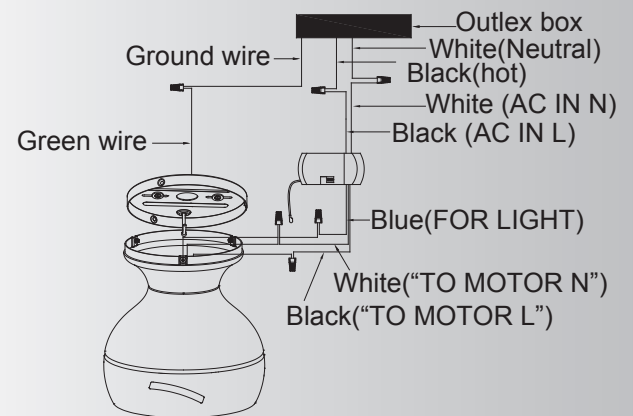

Fig. 9
Step 1. Motor to Receiver Electrical Connections: Connect the BLACK wire from the fan to BLACK wire marked "TO MOTOR L" from the receiver. Connect the WHITE wire from the fan to the WHITE wire marked "TO MOTOR N" from the receiver. Connect the BLUE wire from the fan to the BLUE wire marked "FOR LIGHT" from the receiver. Secure all the wire connections with the plastic wire nuts provided. (Fig. 9)
Step 2. Remote Receiver to Outlet Box Electrical Connections: Connect the BLACK (hot) wire from the ceiling to the BLACK wire marked "AC in L" from the receiver . Connect the WHITE (neutral) wire from the ceiling to the WHITE wire marked " AC in N" from the Receiver . Secure the wire connections with the plastic wire nuts provided . (Fig. 9)
Step 3. If your outlet box has a ground wire (green or bare copper) connect it to the fan ground wires : Secure the wire connection with a plastic nut provided. After connecting the wires, spread them apart so that the green and white wires are on one side of the outlet box and black wire is on the other side. (Fig. 9)